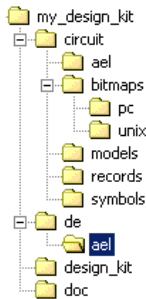

Figure 5-1. Design Kit Directories
5. To test the result, copy the zip file to a different directory and unzip it. The unzipped image should contain only one directory at the top level. All subdirectories will be one level below that (see Figure 5-1).